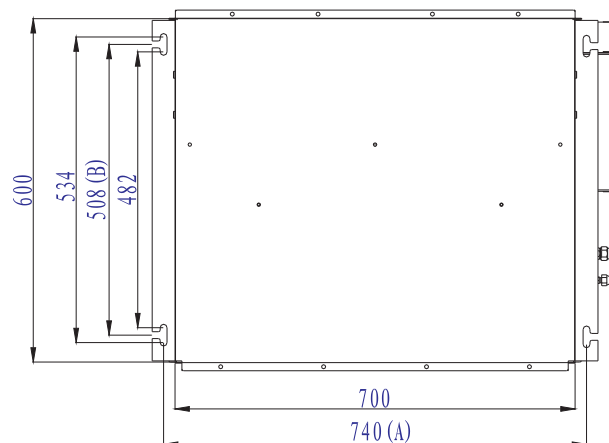

Fig 3.3.2
(1) Mark the positions of the suspension bolts, the positions of the refrigerant pipes and the drain pipes.
(2) the dimension are shown below Fig 3.3.2